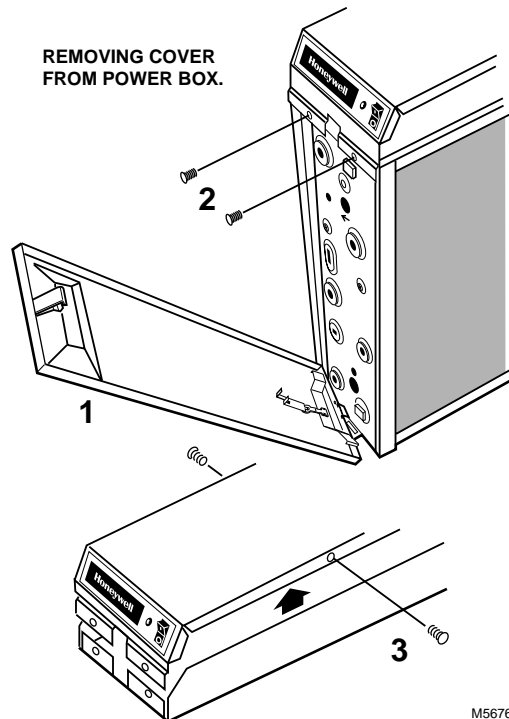
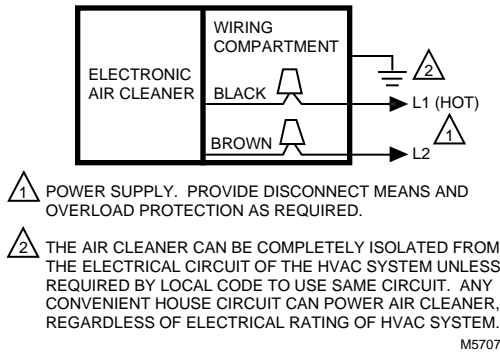

Fig. 18. Removing cover from power box.
Fig. 19. Conduit connection for electronic air cleaner.
2. Remove and retain the (2) screws from the front of the power box and the (2) screws from the sides of the power box. See Fig. 18.
3. In the power box, remove and retain (2) wire nuts that connect the line cord leads to the power box wiring.
8. Wire the air cleaner directly to line voltage using wire nuts. See Fig. 19. Secure ground connection to the green ground screw on the wiring compartment barrier.